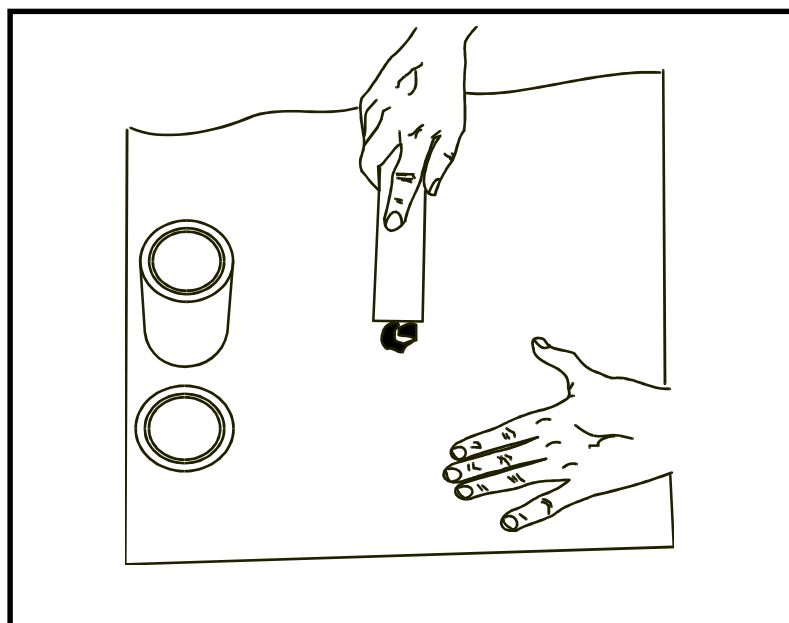

Figure 10-1. Cementing a small hole with adhesive
a. Repairs for Small Holes. A dab of adhesive is used on a hole in a tent that measures 1/8 inch or less across. To seal such a small hole (Figure 10-1)--
- (1) Obtain a can of tent-patching adhesive, a wire brush, and a small stick or paddle.
- (2) Use the wire brush to clean the area around the hole and raise the nap of the canvas.
- (3) Use the small stick or paddle to put a dab of adhesive on the hole.
- (4) Use the stick or paddle to work the adhesive into the canvas immediately. Bridge the hole with adhesive to seal it.